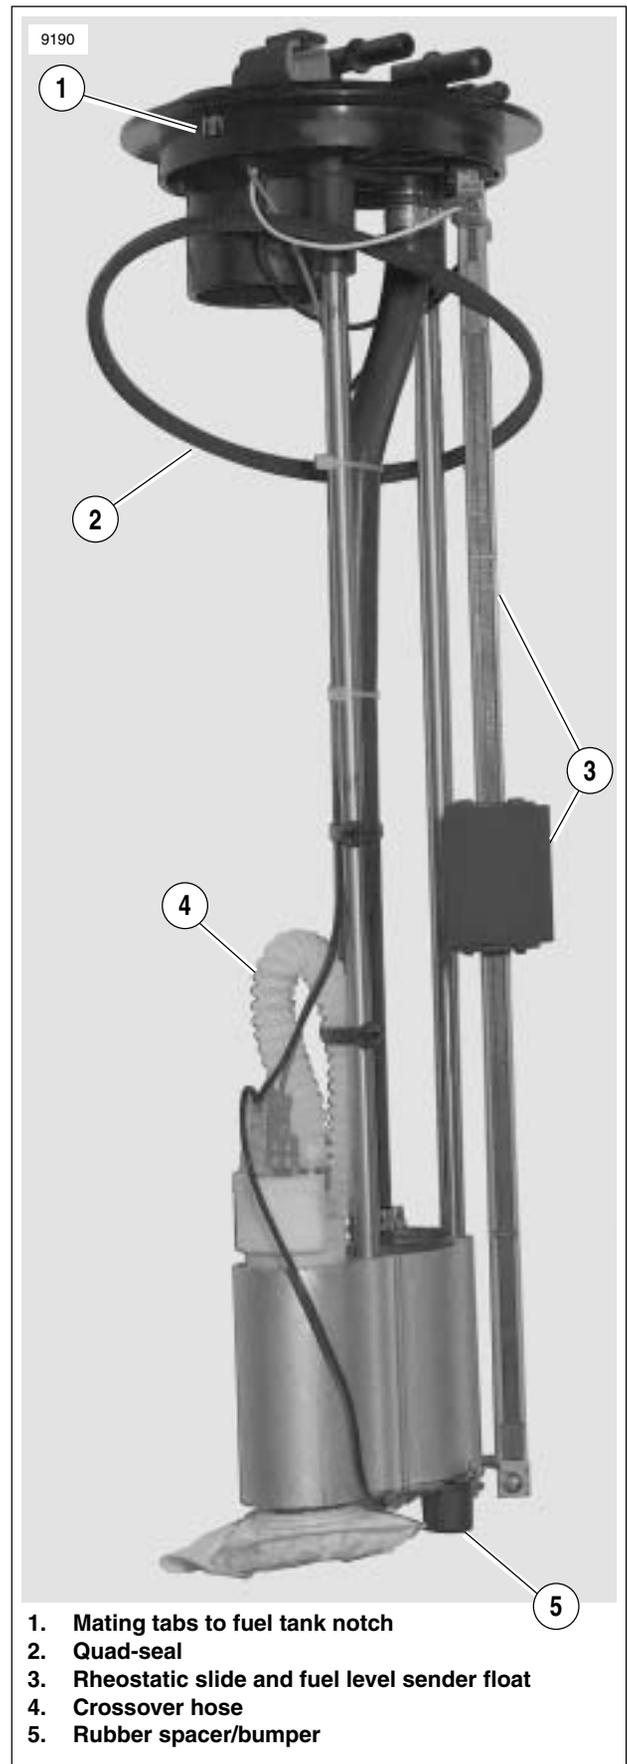

Figure 4-4. Fuel Pump/Filters/Fuel Level Sender Assembly
- See Figure 4-4. Insert fuel pump/filters/fuel level sender assembly into fuel tank. The two side by side tabs (1) on the right underside of the top plate mate to a notch in the collar in the fuel tank allowing the top plate to fall into position and the rubber spacer/bumper (5) on the bottom of the fuel pump/filters/fuel level sender assembly to rest on the bottom of fuel tank.
1. See Figure 4-4. Remove yellow wire lead and the double black wire leads from the rheostatic slide (3).
3. Remove the retaining screw at the bottom of the rheostatic slide (3).
4. Pull the rheostatic slide (3) from its slot in the top plate and remove the fuel level sender float (3).
1. See Figure 4-4. Slide rheostatic slide with fuel level sender float (3) into notch in top plate. Orient the scale so that the graduated side of the slide faces the fuel level wire connector on the top plate.
2. With the fuel level sender float on the slide (3) so that the half-round side faces out, thread in and tighten the retaining screw into the stop bracket at the bottom of the rheostatic slide (3).
3. Attach the yellow wire lead to the graduated side of the rheostatic slide (3) and the double black lead to the opposite side.